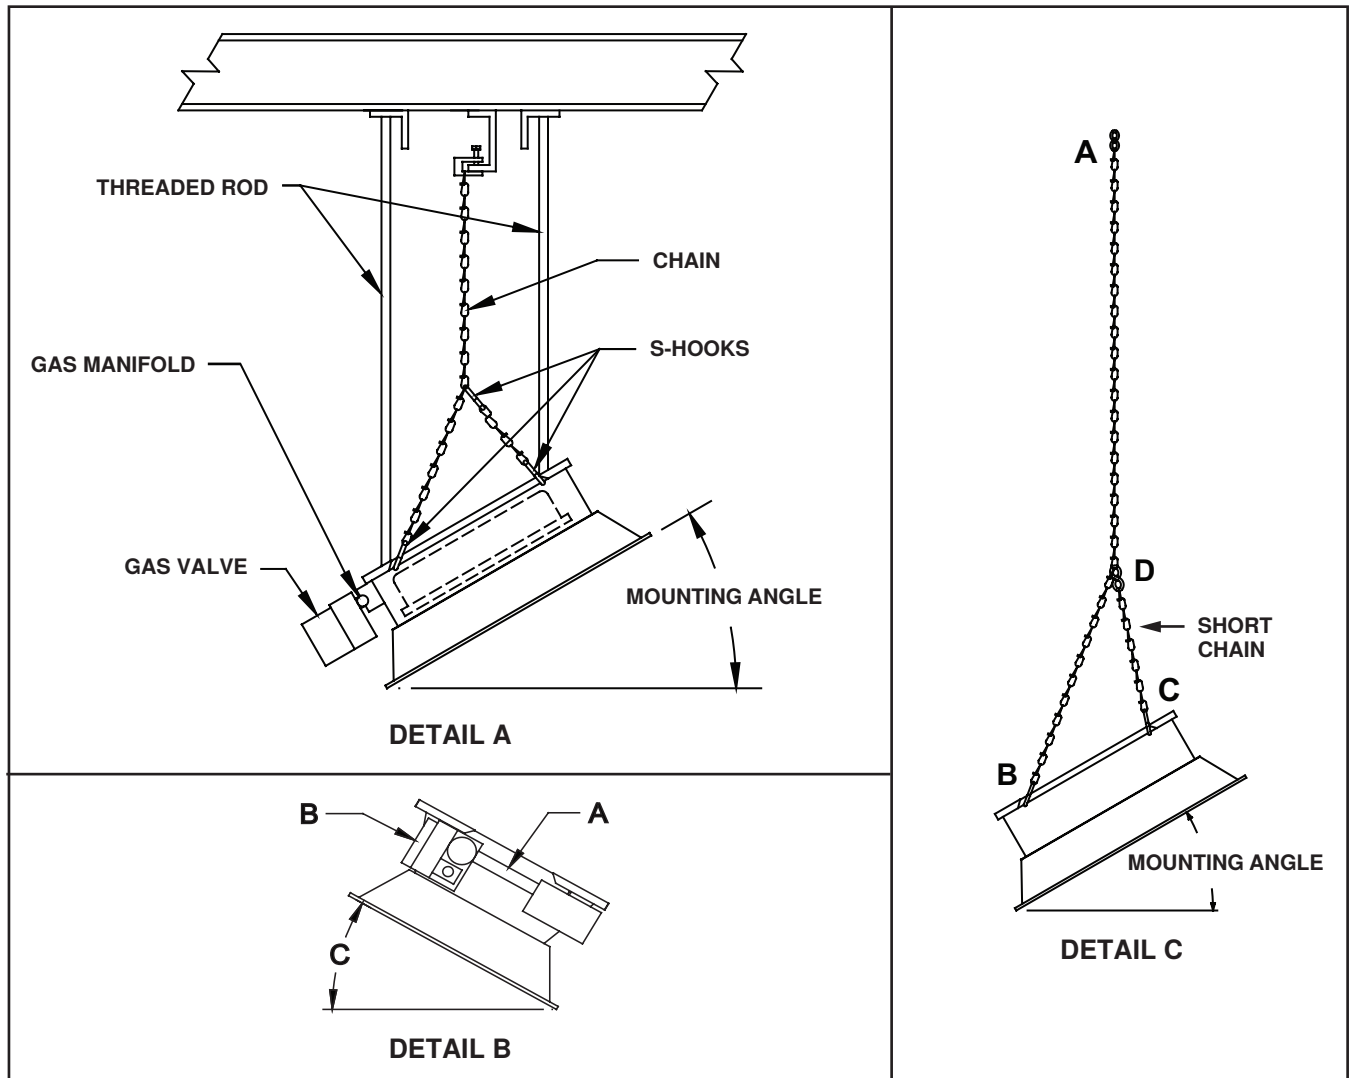

Figure 3. Suspension Mounting
- Suspend the heater with the gas manifold located on the low end using either 3/8-inch (10-mm) threaded rod for rigid mount or chain and S-hooks for chain mount (see Figure 3, DETAIL A). Chain with a 200-pound (91-kg) working load (1/0 Tenso) is recommended. S-hooks must be a minimum 1/4-inch (6.3-mm) diameter wire and must be closed after installation.
- As an exception, it is permissible to suspend the following single-burner models with the gas valve on the high end: RIHL unit size 050 and RIHN unit sizes 030 and 060 (see Figure 3, DETAIL B). Mount these units with the gas manifold (A) angled upward, the gas valve (B) toward the high side, and the mounting angle at 5- to 30-degrees.
- If permissible by local code, it is recommended that the heater be suspended using chain and S-hooks (see Figure 3, DETAIL C). Suspend the heater as follows using either the chain and S-hooks provided in option UE1 or UE2 or field-supplied chain and S-hooks: